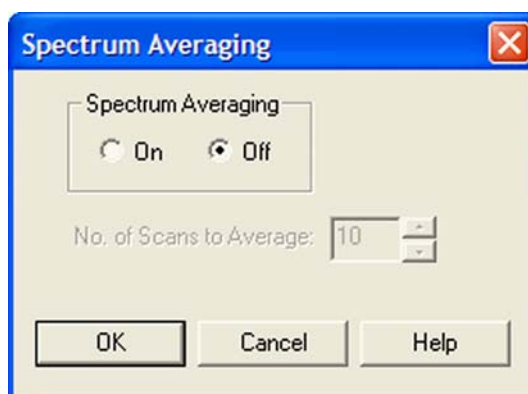

Figure 2-11. Spectrum Averaging dialog box
1. In the Tune Plus window, choose Display > Spectrum Averaging > **Settings...** to display the Spectrum Averaging dialog box. See Figure 2-11.